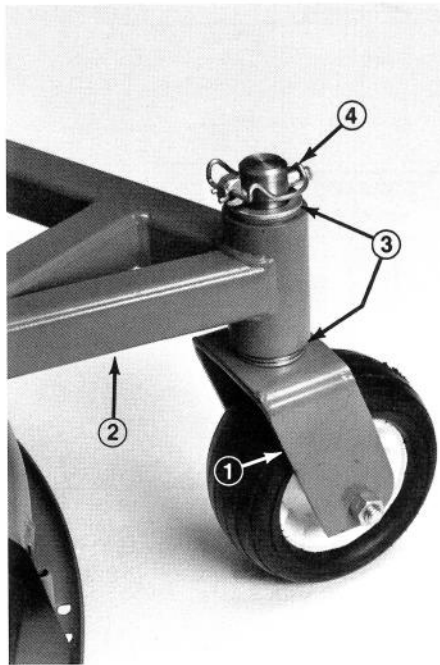

Figure 1
1. Place two thrust washers on each castor wheel shaft (Fig. 1).
2. Insert shafts into carrier frame. Install one more thrust washer and secure with lynch pins (Fig. 1).